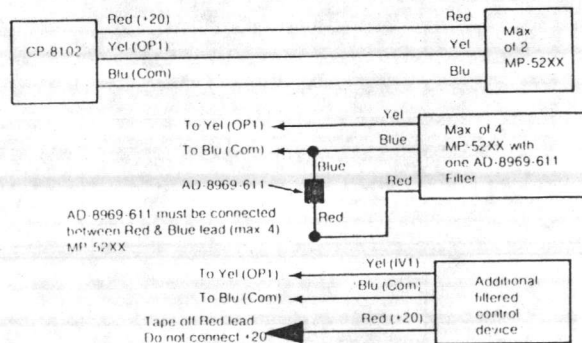

Figure 6. At Least One of the Controlled Devices in MP-52XX (Unfiltered)
2. Controlled devices (MP-52XX) with unfiltered and unregulated power supplies must be filtered. CP-8102 will provide filtering for a maximum of two MP-52XX by connecting the two red leads together at the controller's +20 terminal (see Figure 6).